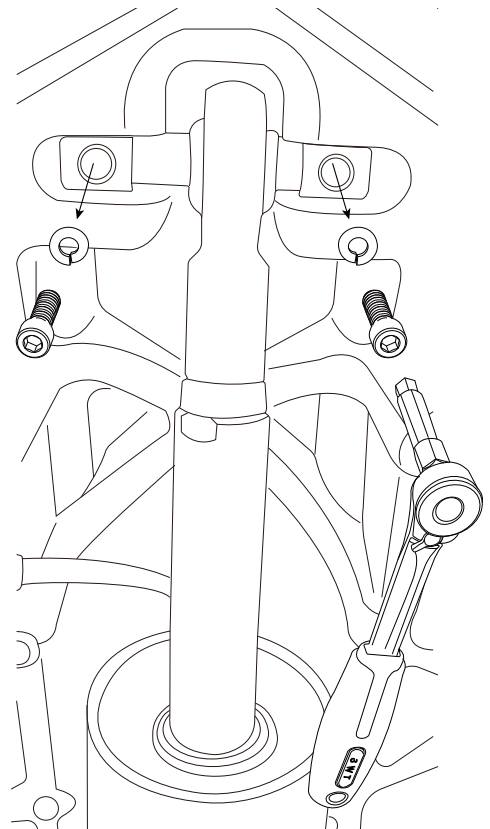

Figure 6. Removing two upper bolts
- 3 Remove the two upper bolts connecting the lower cylinder to the truss with the 1/4" T49990 Ratchet (see Figure 6).